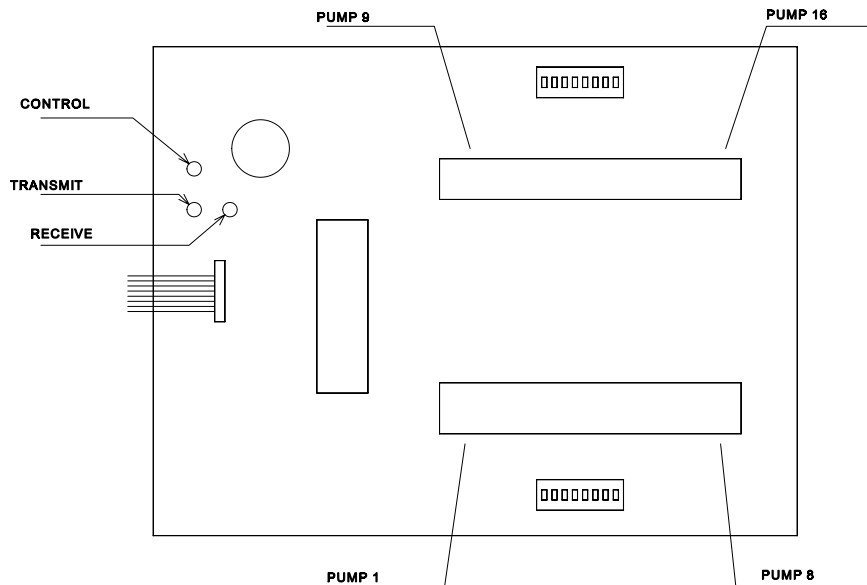

Figure 14: Configurator Box for Bennett Systems
1. Connect the data wires — Orange (+) and Yellow (-) — into the pump connectors on the Bennett distribution box. Refer to Table 7 and Figure 14.